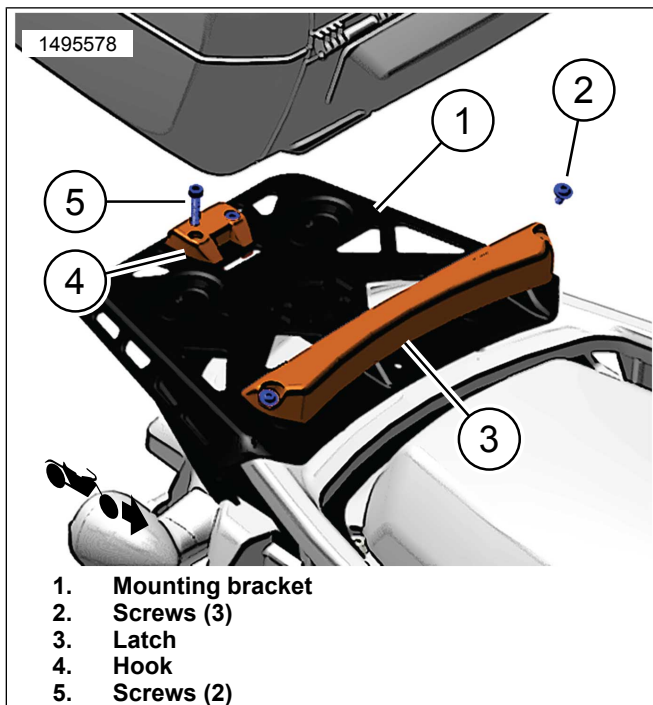
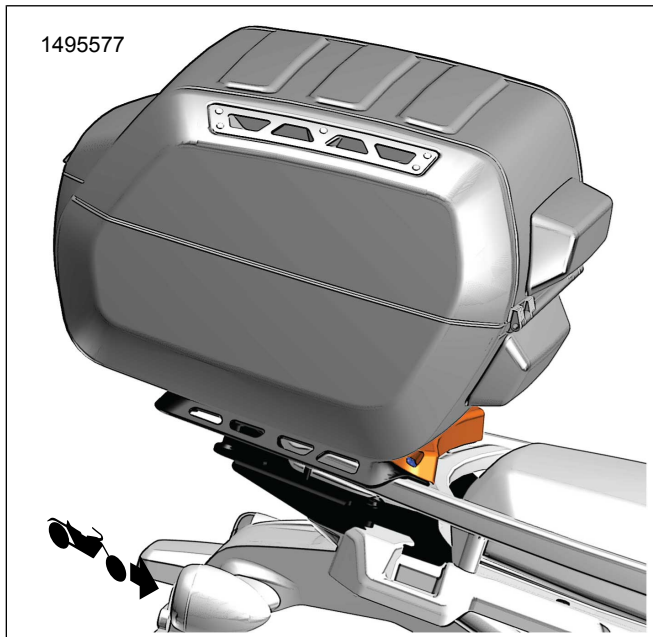

Figure 13. Mount Kit (53000812)
Figure 14. Top case Installation
1. Figure 13 Install mounting kit to mounting bracket.
- a. Install latch (3) with three screws (2) to front of mounting bracket (1). Tighten.
3. See Figure 13 and Figure 14. Slide top case to front latch (3), rock down until it clicks into rear hook (4) .